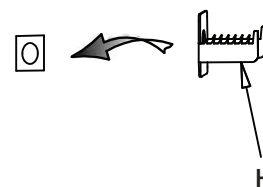

Fig. 15
- Clean the wall around the brass connector assembly thoroughly with a dry cloth. Peel the paper backing from the double sided tape on the stainless steel mounting bracket (H), see Fig. 15.